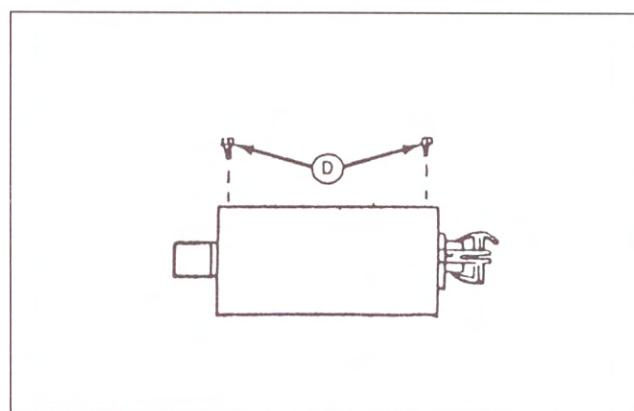

Figure 4.3.3
4. Remove screws (D) from top of burner housing and pull out burner. (see Figure 4.3.3)